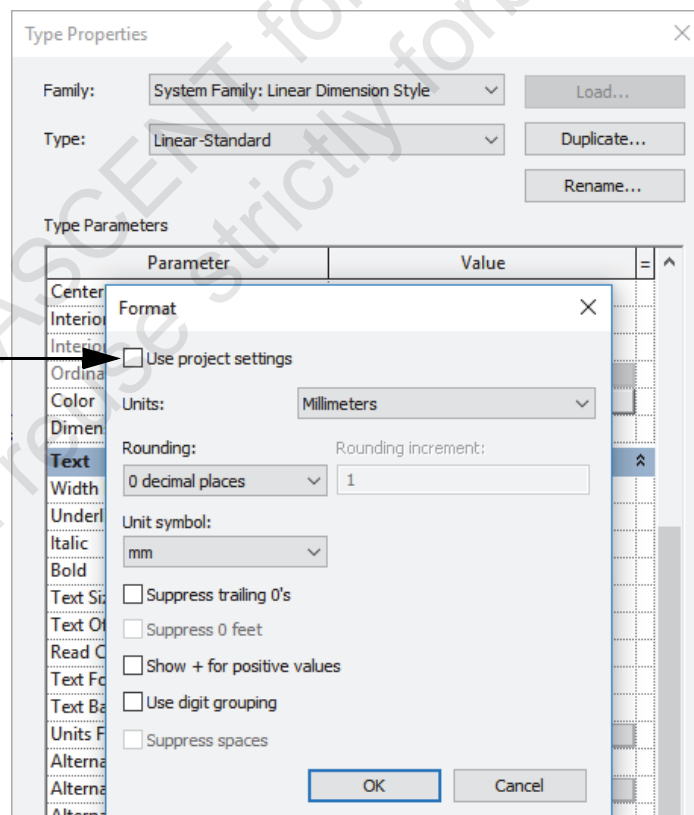

Figure 1–70
7. Click on *Units Format*. In the Format dialog box, clear the check mark for **Use project settings** and change the *Rounding* to **0 decimal places** and the *Unit symbol* to **mm**, as shown in Figure 1–70.